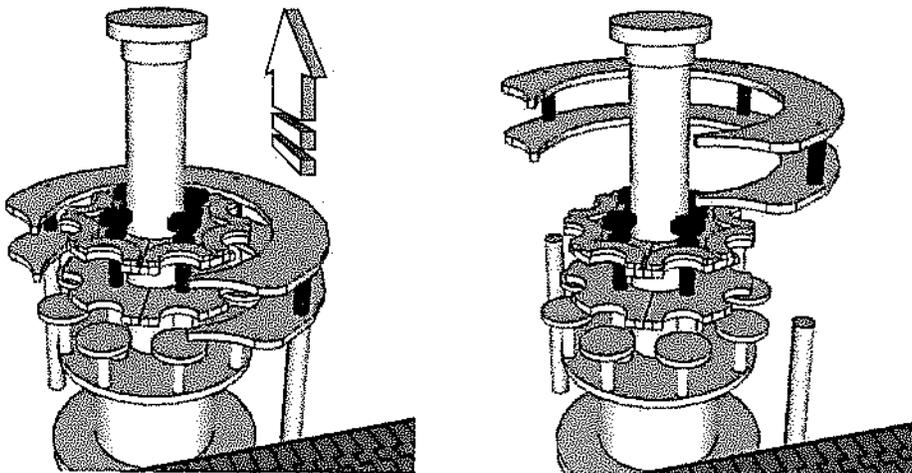

fig.25
- Remove the conveyor by lifting it upwards (fig.25).